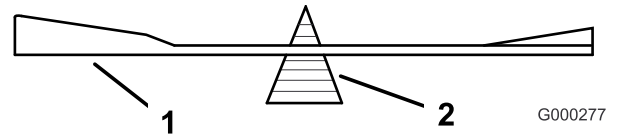

Figure 101
2. Check the balance of the blade by putting it on a blade balancer (Figure 101). If the blade stays in a horizontal position, the blade is balanced and can be used. If the